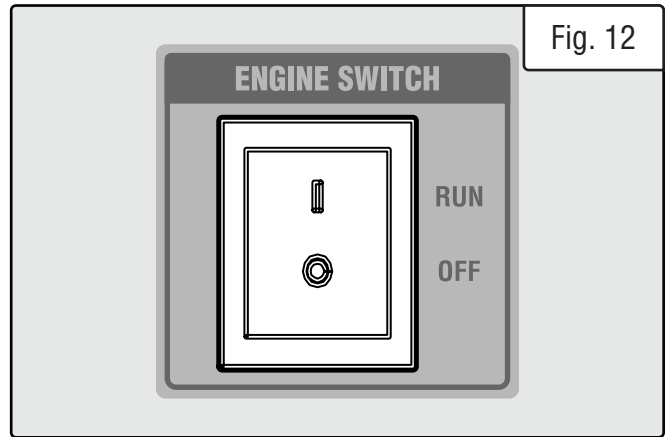

Fig. 12
6. Push the engine switch (Fig. 12) to the OFF position.